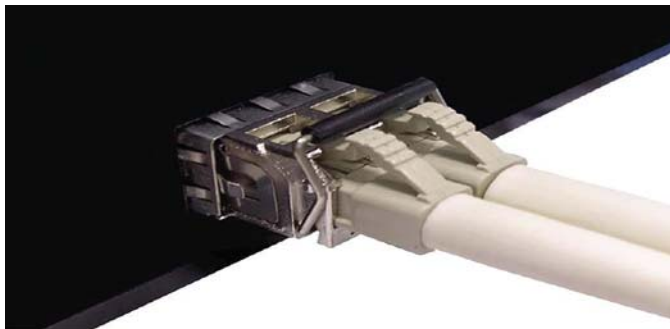

Figure 9. LC Connector to the Transceiver
2. Insert the fiber cable of the LC connector into the transceiver as shown in figure 9.